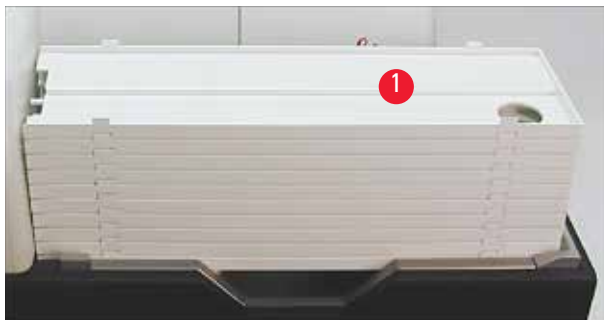

Fig. 39
1. Place a stack of trays (→ "Fig. 39-1") onto the lifting table of the unload station (→ "Fig. 39").